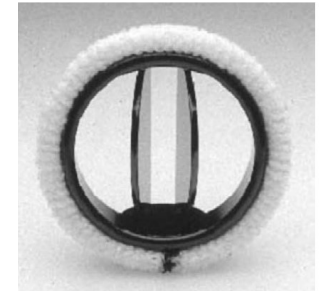

FIG. 1. A replacement heart valve.
FIG. 1. Typical metal crystal structures (unit cells). (A) Face-centered cubic (FCC). (B) Full size atoms in FCC. (C) Hexagonal close-packed (HCP). (D) Body-centered cubic (BCC).